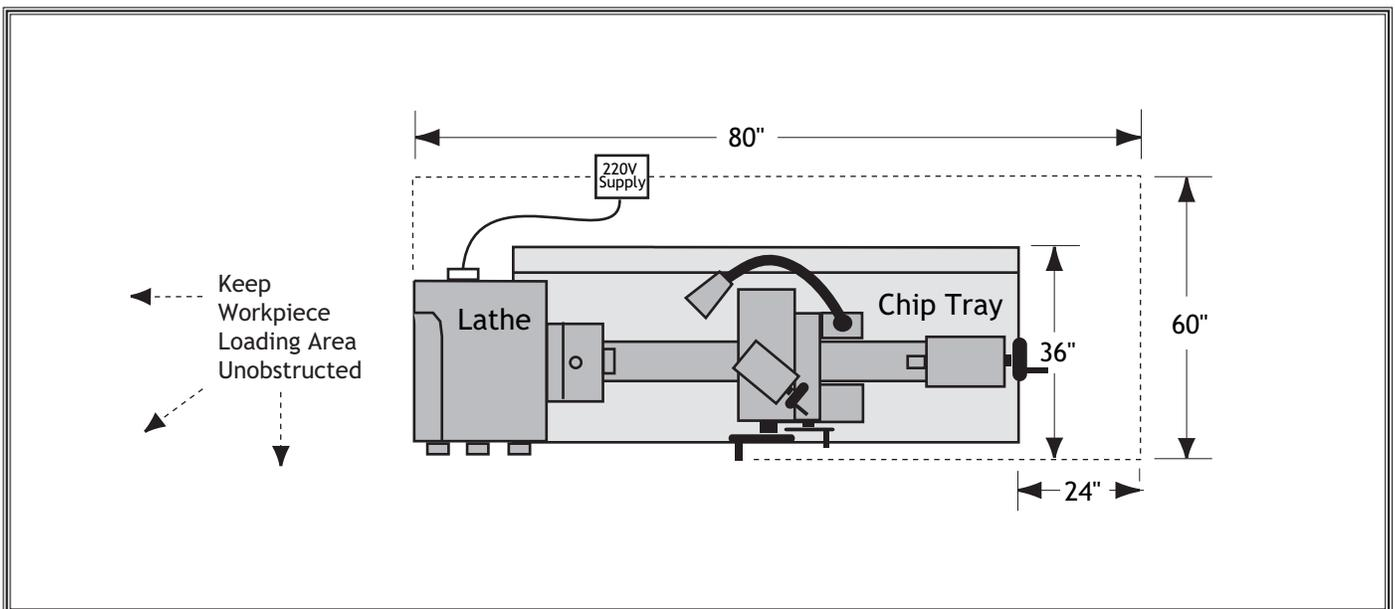

Figure 11. Minimum wall clearances.
- **Working Clearances:** Consider existing and anticipated needs, service panel access, length of rods to be loaded into the lathe, and space for auxiliary stands, work tables or other machinery when establishing a location for your lathe (see **Figure 11** for dimensions).